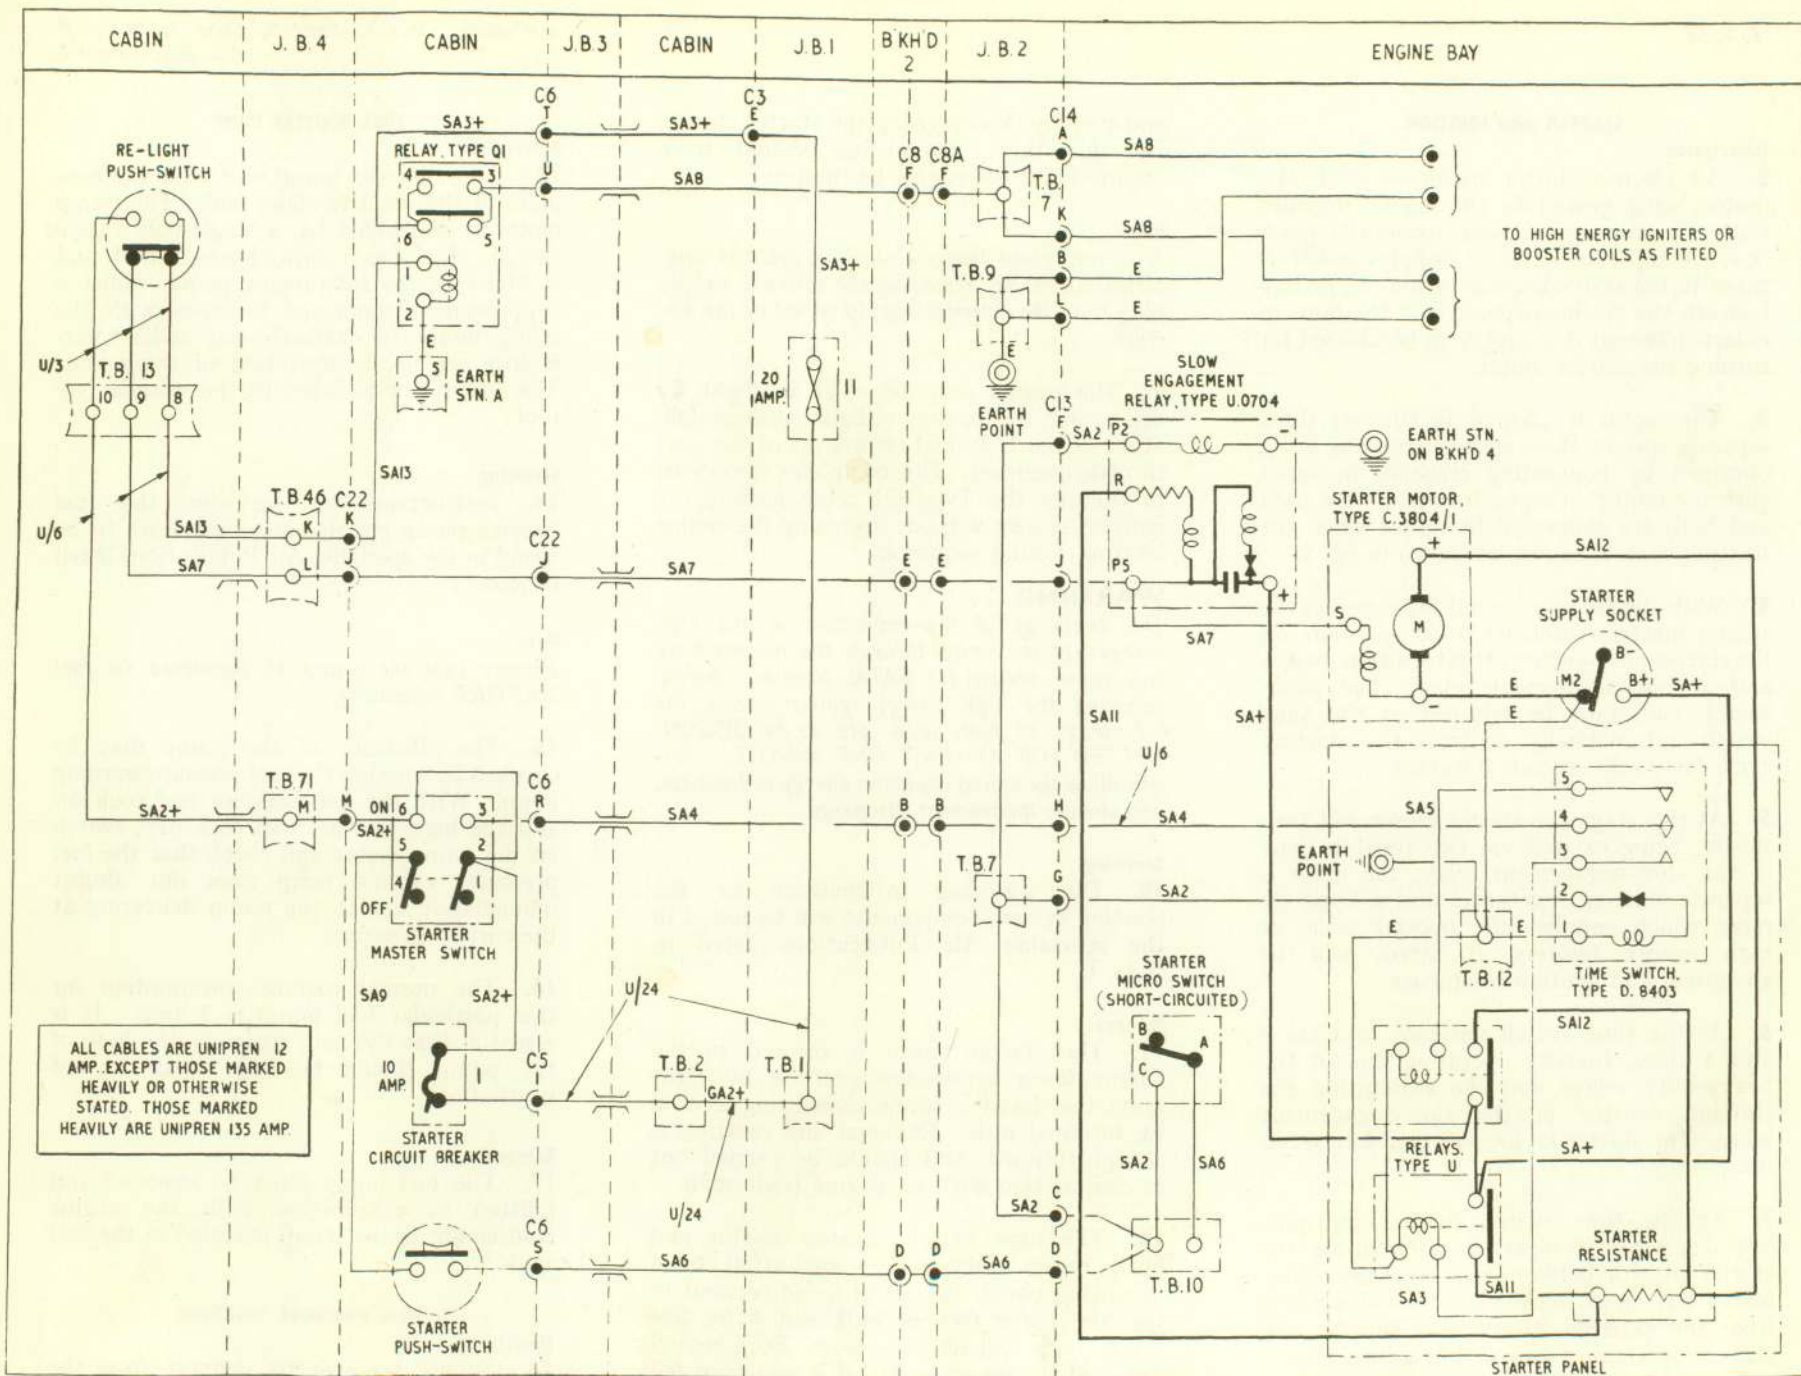

Fig. 2. Starter and ignition-SA
3. The motor is allowed to turn at three separate speeds, these speed variations being obtained by connecting resistors in series with the motor. Two such resistors are used and both are connected in circuit when the starting cycle is begun, as shown in fig. 2.